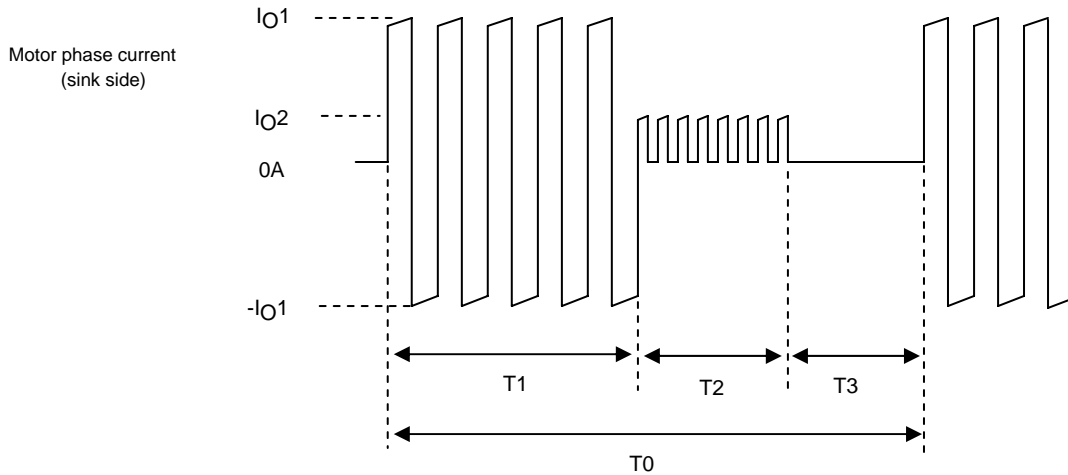

Figure 1 Motor Current Timing
Although the waveforms during avalanche mode are given in Figure 1, sometimes an avalanche does not result during actual operations.
- Increases in  $V_{DSS}$ ,  $t_{AVL}$ , and  $I_{AVL}$  in Figure 1 due to an increase in the supply voltage from 24V to 36V.
If the factors above are negligible, the waveforms shown in Figure 1 become waveforms without avalanche as shown in Figure 2.
Calculate the internal HIC loss, PdAV, assuming repeat operation such as shown in Figure 1 below, since conduction during motor rotation and off time both exist during actual motor operations.
Note that figure 1 presents the concepts here, and that the on/off duty of the actual signals will differ.